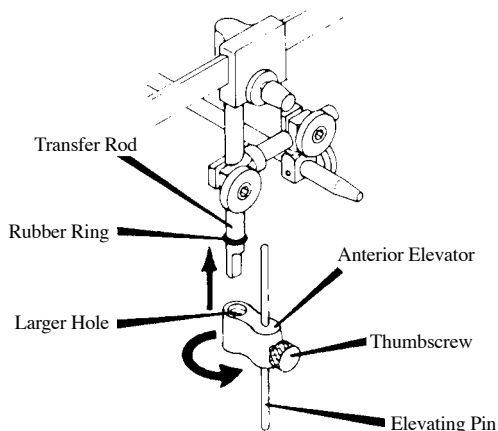

Figure 13
12. The Anterior Elevator, 010358-000, slides onto the Transfer Rod, Figure 13. Place the larger hole first and twist the Elevator over and onto the Rubber Ring, the Elevating Pin and Thumbscrew toward the front. Slide the Elevating Pin to its uppermost position and secure by Thumbscrew.